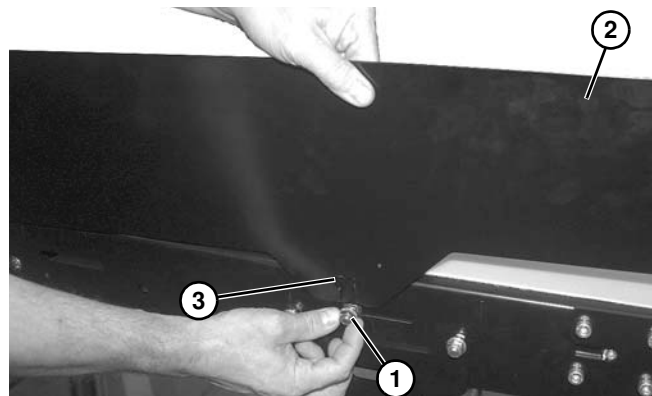

Figure 44
2. Install carriage bolt (**Figure 44, item 1**) through inside conveyor frame, and loosely install nut onto carriage bolt.
3. Install high side guide (**Figure 44, item 2**) onto carriage bolt and seat into notch (**Figure 44, item 3**) in guide.